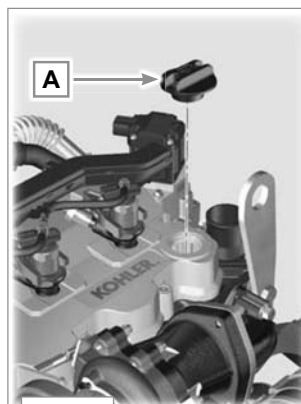

Fig. 6.1
- 1 - Loosen the oil filler cap **A** (Fig. 6.1).